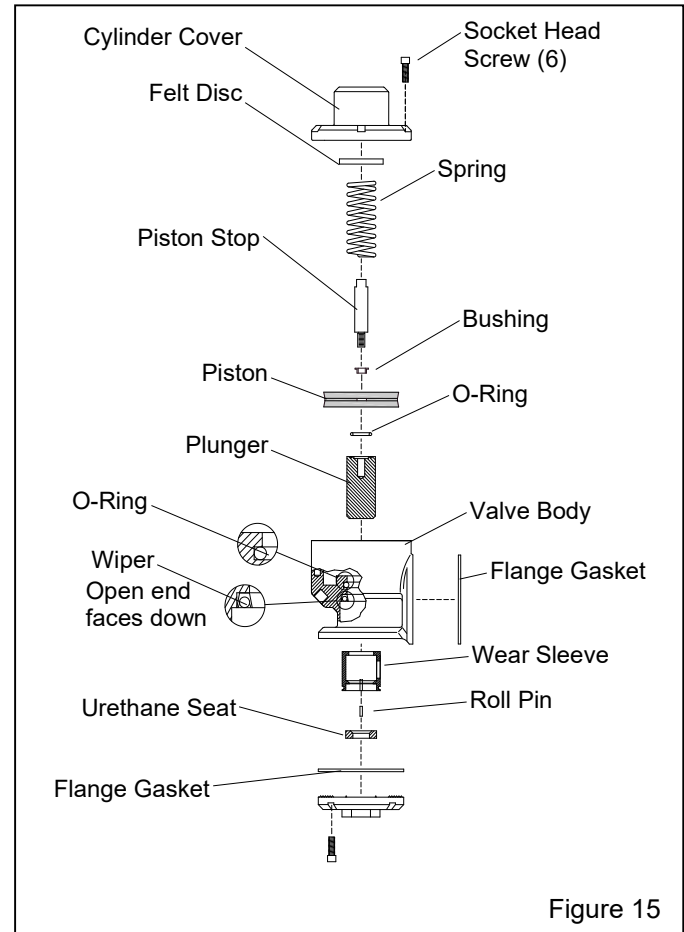

Figure 15
6.3.10 If the wiper in the valve body needs replacement, the O-ring side of the wiper must face down, as shown in Figure 15.